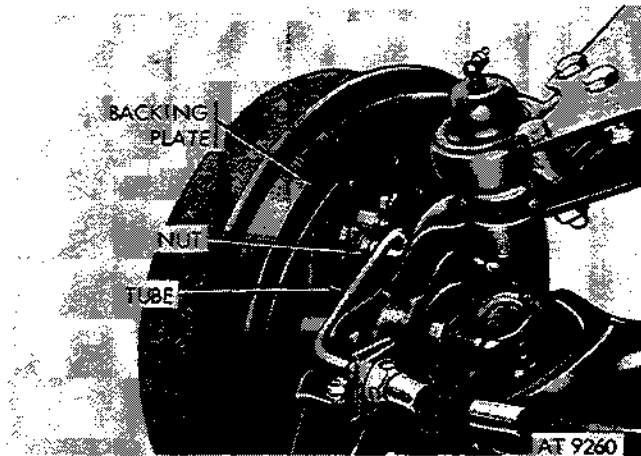

Figure 2-314. Disconnect brake cylinder tube from brake backing plate.
- (1) Raise vehicle and position support under lower control arm.
- (2) Remove spindle (para 2-138), and disconnect tie rod end (para 2-164).
- (3) Loosen nut and disconnect brake cylinder tube from brake backing plate (fig. 2-314).